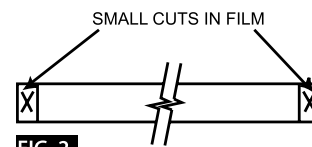

FIG. 2
6. Ensure the flanges of the panel face away from you and the DANSEA sticker is positioned to the right (Fig. 2). The panels are folded with the left-hand end slightly narrower than the right-hand end so the larger end can overlap the narrower end.